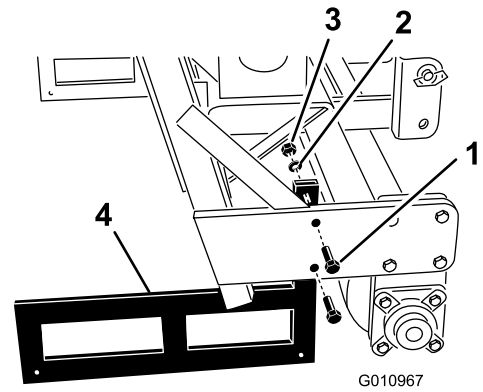

Figure 35
2. Remove the bolts, lock washers, and nuts securing the storage stands to each end of the aerator (Figure 35).